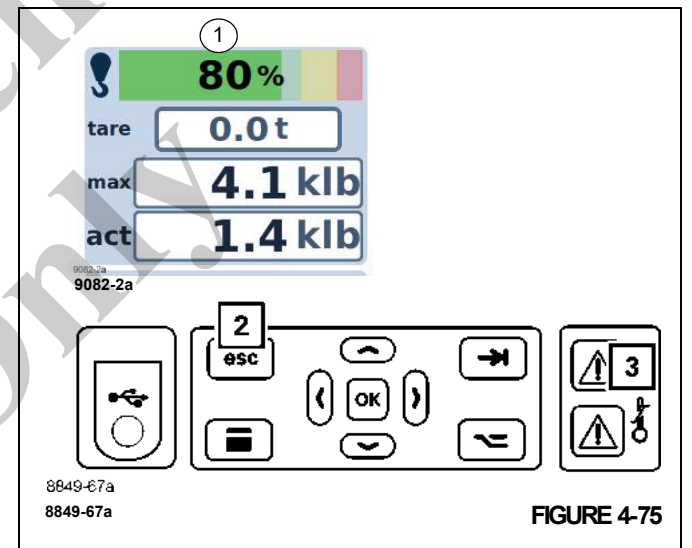

FIGURE 4-75
- An intermittent buzzer tone will sound. After five seconds, you can switch off the buzzer tone using button (2), (Figure 4-75).
- The lamp (3) lights up.
- Display (1) shows the current degree of utilization, e.g. 80%; the bar is green.